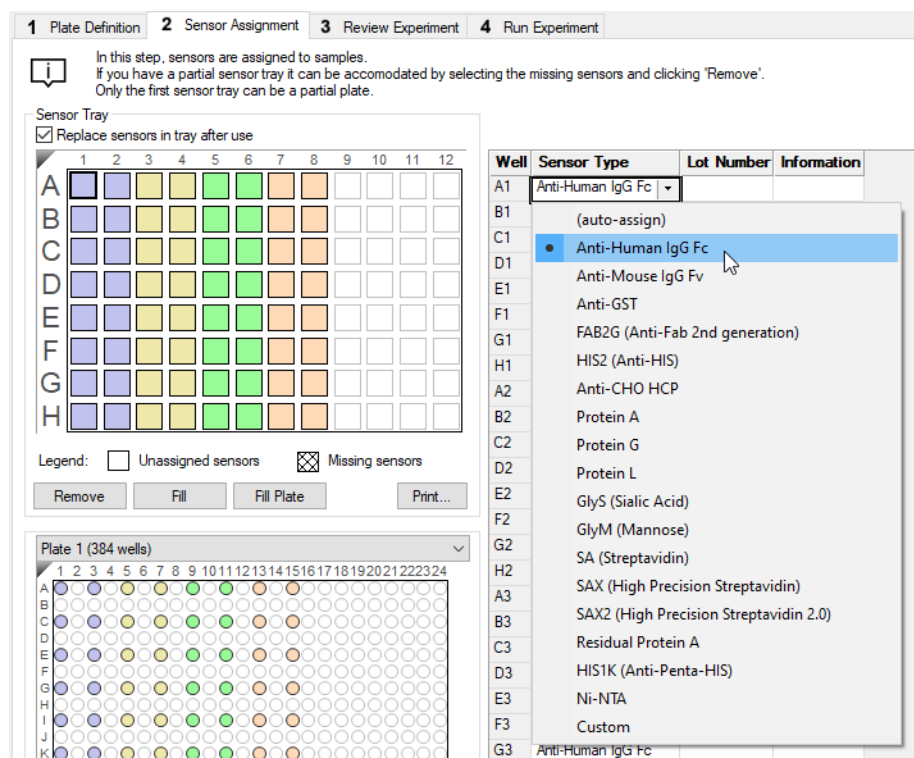

Figure 7-46: Changing Biosensor Types
- Select a cell in the **Sensor Type** table column, click the down arrow and select a biosensor type from the drop-down list (see Figure 7-46).